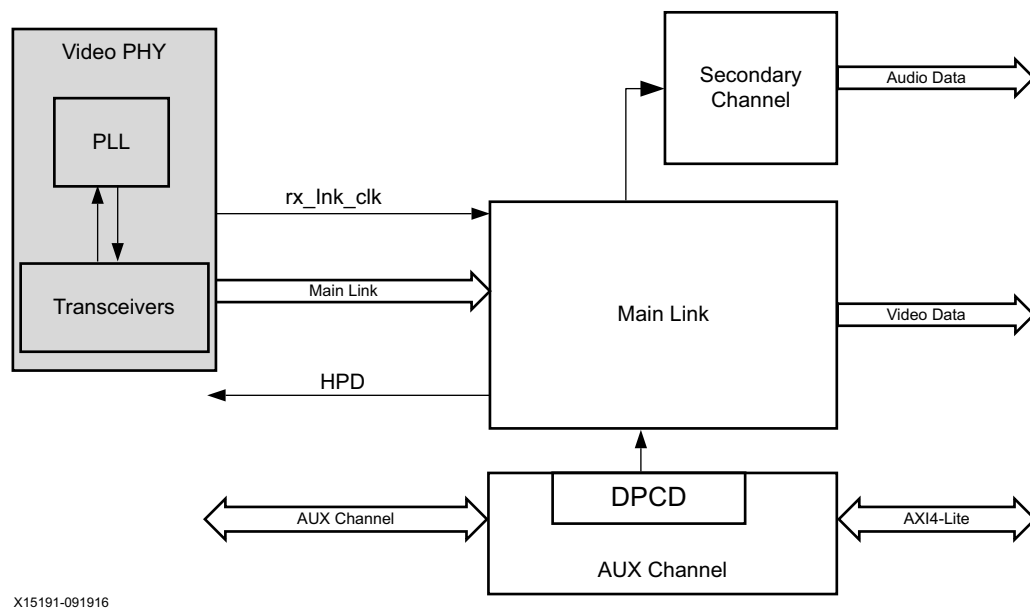

Figure 2-7: DisplayPort Receive Core Block Diagram
The DisplayPort Receive (RX) core contains the following four major blocks as shown in Figure 2-7: